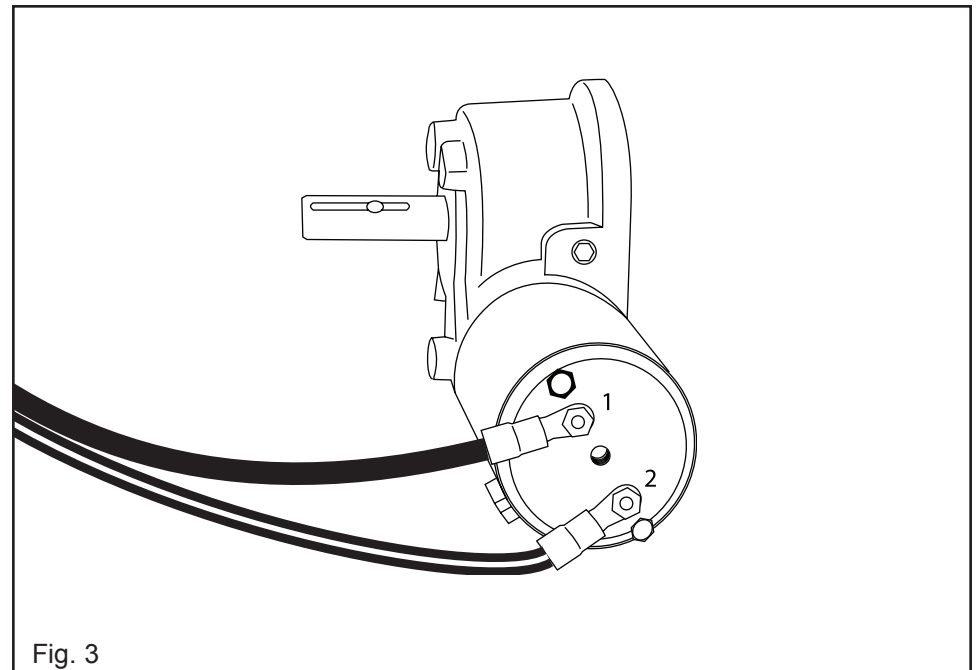

Fig. 3
- C. Attach black wire to Terminal # 1 on motor (Fig. 3).
- D. Attach red striped wire to Terminal # 2 on motor (Fig. 3).